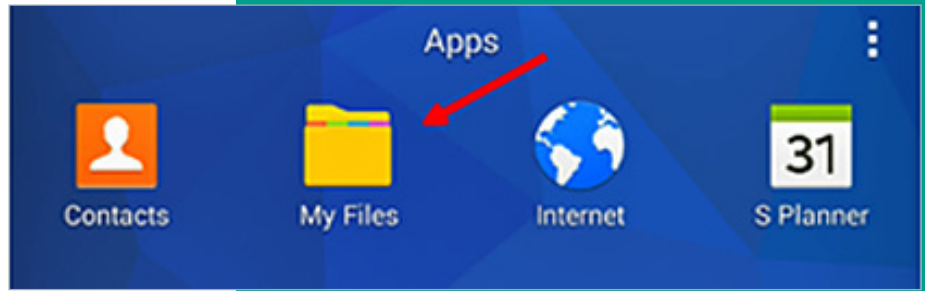

Figure 55: The “my Files” folder
1. Open the “my files” folder on the tablet screen and select the app from the SD folder (see Figure 55 at right).